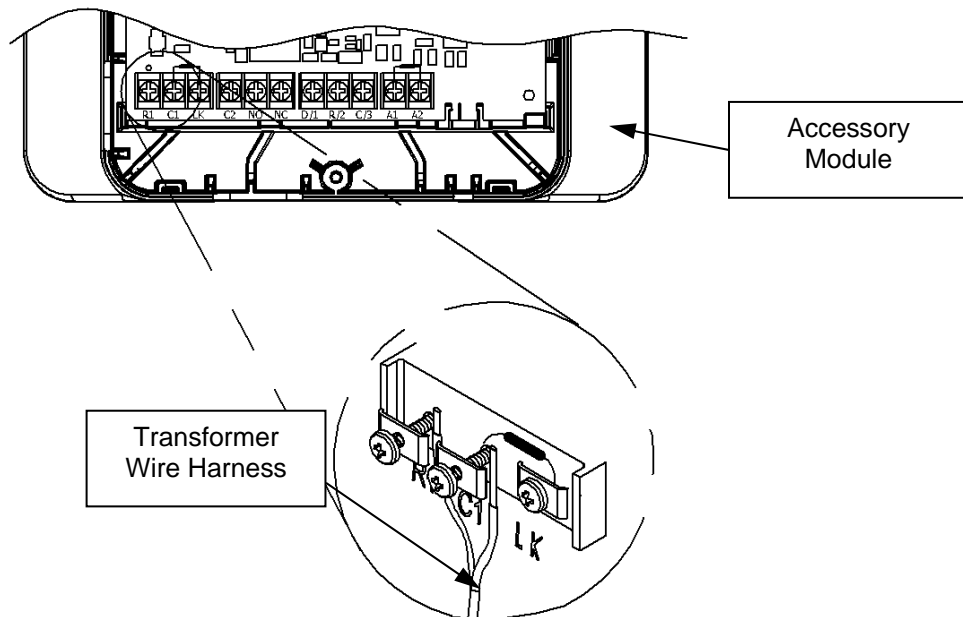

Figure 16
Step 16: Insert each wire stripped end of the Transformer wire harness under the screws labeled "R1" and "C1." This is shown in Figure 16.